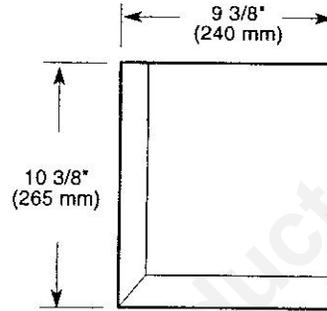

Figure 3-23. Combustible wall opening - Rear Through-the-Wall Termination.
1. Locate the vent opening on the wall. Be sure that the vent termination meets all clearance requirements noted on pages 8-10. Depending on whether or not the wall is composed of combustible materials, cut the opening to the size shown in Figs. 3-23 and 3-20. See page 4 for horizontal vent centerline.